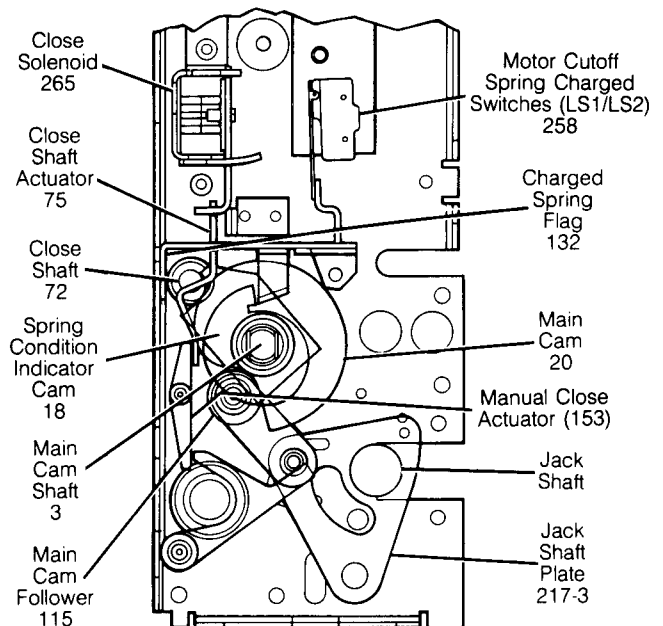

Figure 17b: Closing Mode
At the beginning of the charging cycle, ratchet pin (16) is at the 6 o'clock position. The ratchet pin is connected to the ratchet wheel. Upon being advanced by ratchet action to the 12 o'clock position, this pin engages the drive arms (8) which are keyed to the main cam shaft. Consequently, counterclockwise rotation of the ratchet wheel causes the ratchet pin to drive the main cam shaft counterclockwise. When the ratchet pin reaches the 6 o'clock position, the closing springs are fully charged. Driving pawl (24-1) is disengaged, the spring condition indicator cam (18) has rotated allowing the spring charged flag (132) to drop into the lower (charged) position, which also operates the motor cutoff switch (LS1) and spring charged switch (LS2) (258) (see **Figures 17b** and **27**). The closing springs are restrained fully charged by close hatchet (22) against close shaft (72).
Closing Mode (Figure 17b) - Energizing the close solenoid (265) pulls the solenoid armature against the closing shaft actuator (75) and causes the close shaft (72) to rotate approximately 15°. If the closing springs are charged, the close